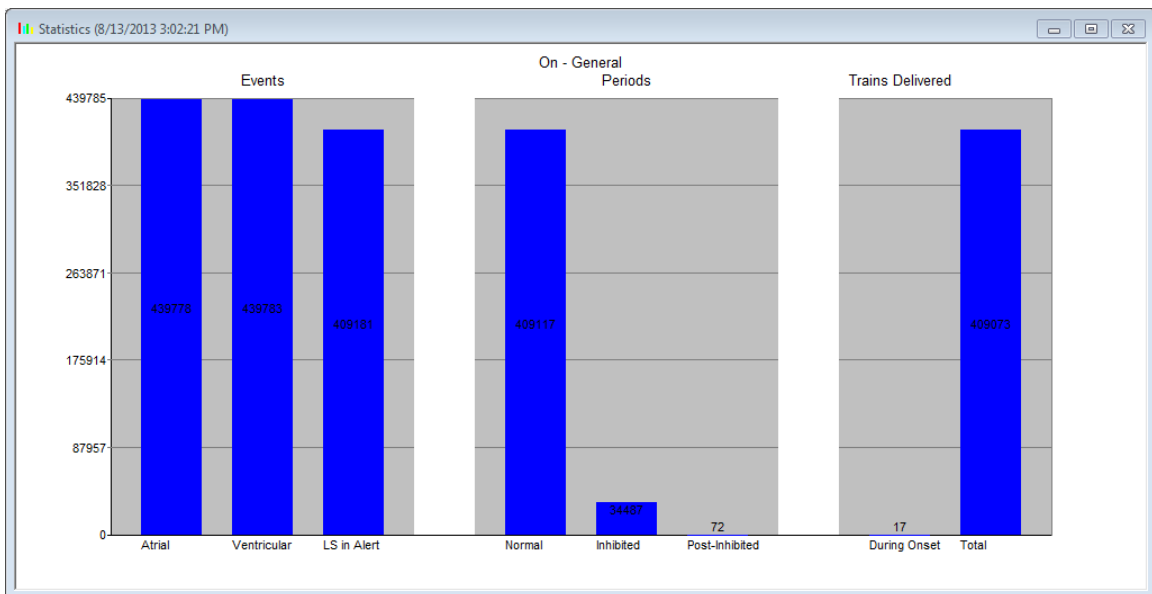

Figure 26: Statistics Histogram
- **Graphic:** Displays histogram of statistics from active tab – see Figure 26.